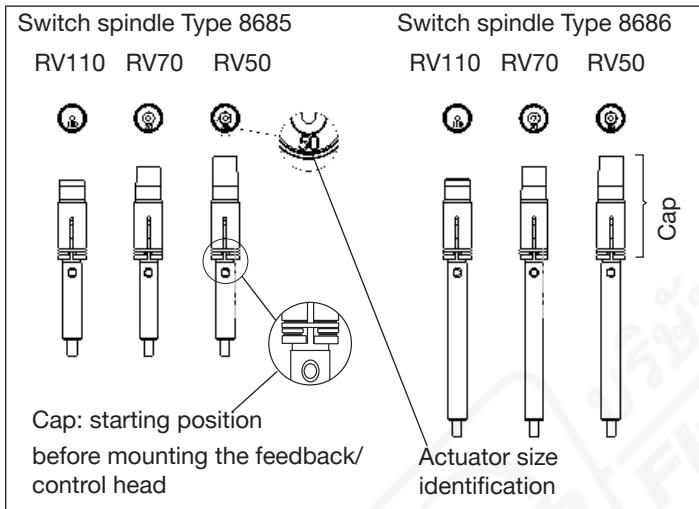

Fig. 5: Switch spindle identification
- ▶ Use only switch spindles that match the actuator size. The corresponding actuator size identification (RV50, RV70, RV110) for switch spindles are embossed on the front of the PVC cap (see "Fig. 5.").
- Select the switch spindle that matches the actuator size (see "Fig. 5: Switch spindle identification").
- The caps must be in the starting position. If not, move the caps to the starting position (see "Fig. 5")